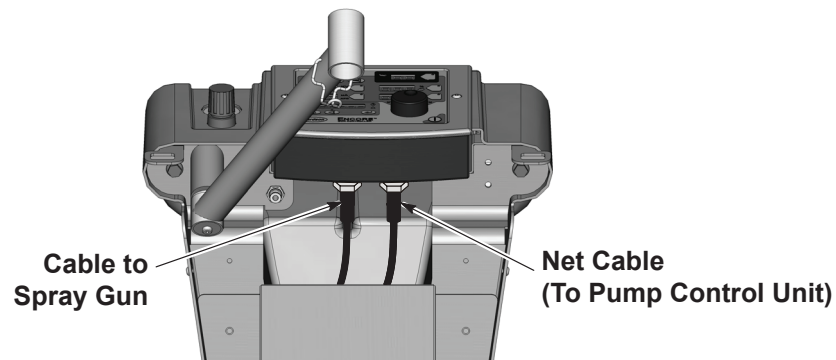

Figure 3-7 Spray Gun Cable Connection to System Controller – Mobile System Shown
1. Mobile System: See Figure 3-7. Feed the spray gun cable into the back of the dolly tower and up through the top front. This will allow the user to bundle the cable with the pattern and electrode air wash tubing.